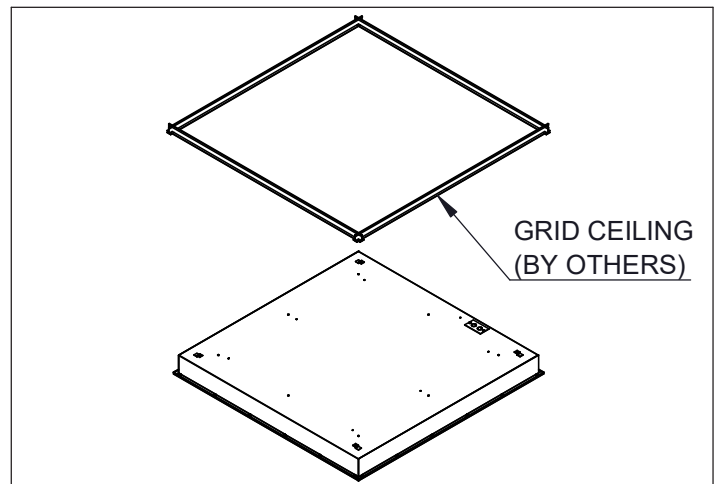

Figure 2
2. Raise the Housing into the grid. (Fig. 2)